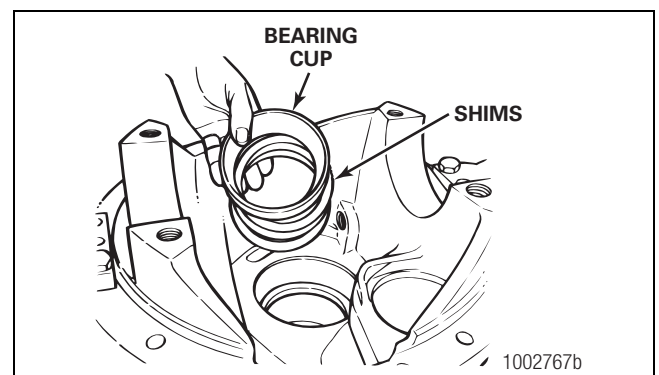

Figure 5.6
- B. Install the correct amount of shims into the bore for the inner bearing cup of the drive pinion. Figure 5.6.
- C. Place the cup into the bore. Figure 5.6.